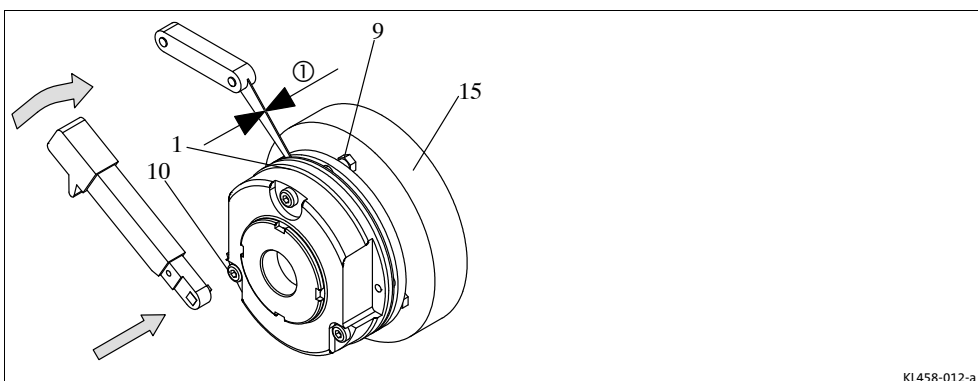

Fig. 4 Stator mounting
3. When assembling the stator (1), push the shaft sealing ring carefully over the shaft.
4. Use the screws (10) to mount the stator (7) completely to the end shield (15) (Fig. 4).
- Tighten the screws evenly, tightening torque (49).